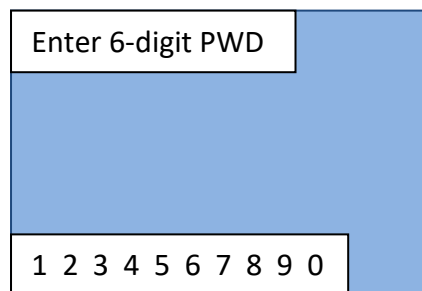

Figure 21 - Password selection screen
- 3) The page in Figure 21 appears; use the Next, Back and Confirm/Enter keys to write the password.